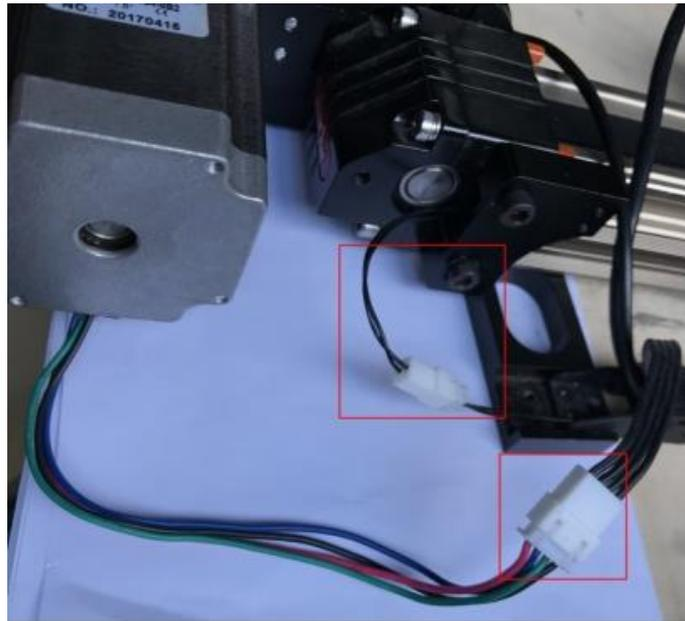

Figure 5.50 Connect sliding rail and wire set
- Step 5** Connect the interfaces on the other end of the wire set to the USB interface of Magic Box, motor interface and homing interface of the sliding rail respectively. Figure 5.50 shows the interfaces on the other end of the wire set.
Figure 5.50 shows the connection between the sliding rail and the wire set.